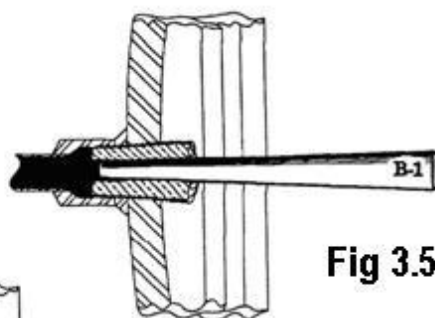

Fig 3.5.1
- A) Drive small DRIFT PIN B-1 (Fig 3.5.1) into valve shank and apply DEVICE 12 (Hood and Bar Assembly) (See Section 4 for instructions).